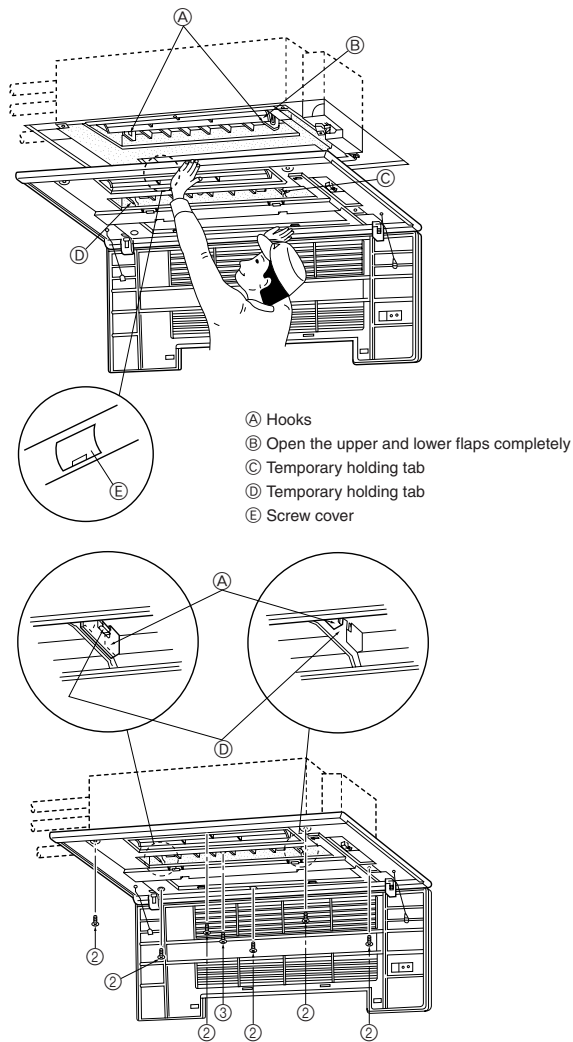
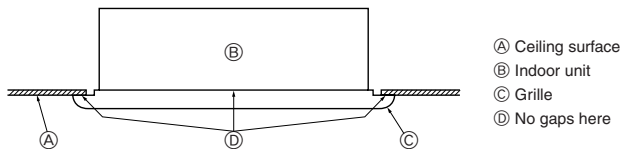

Fig. 7-2
Fig. 7-3
- Hook the temporary holding tabs on the front panel to the hooks on the indoor unit (see Fig. 7-2).
- Adjust the front panel so that it fits properly in the angle between the ceiling and the wall, and install the securing bolts ② (supplied with this grille) in their four places at left and right, leaving them slightly loose.
- Next tighten the securing bolts ② and securing screws ③ in the center three places.
- Finally tighten the securing bolts ② in the four places at left and right.
- At this point, make sure there are no gaps between the indoor unit and the front panel, and between the front panel and the ceiling surface. If there are gaps, the wind may come in and it may cause water to drip (see Fig. 7-3).
- * Tighten the securing bolts ② and securing screws ③ completely.